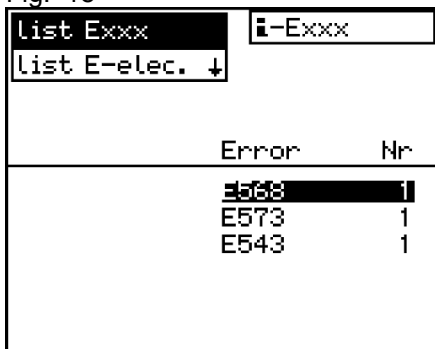

Fig. 19
- Select “list Exxx” to list all the operating errors detected by the switches and sensors for machine parameters monitoring (see Fig. 19).
When selecting the operating errors “list Exxx” all the errors according to the list in chapter are listed, with error code and number of occurrence (see Fig. 19).